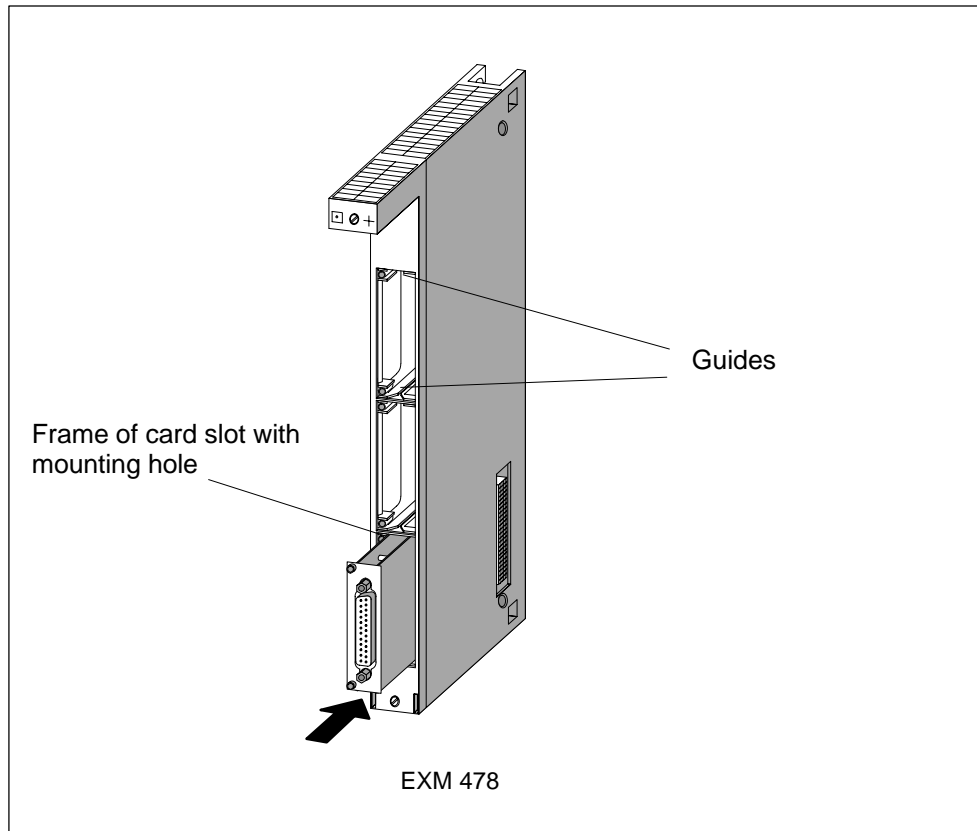

Figure 8-3 Inserting an Interface Submodule in an Expansion Module
2. Insert the PCB end of the interface submodule in the lower and upper guides of the card slot, as shown in Figure 8-3.